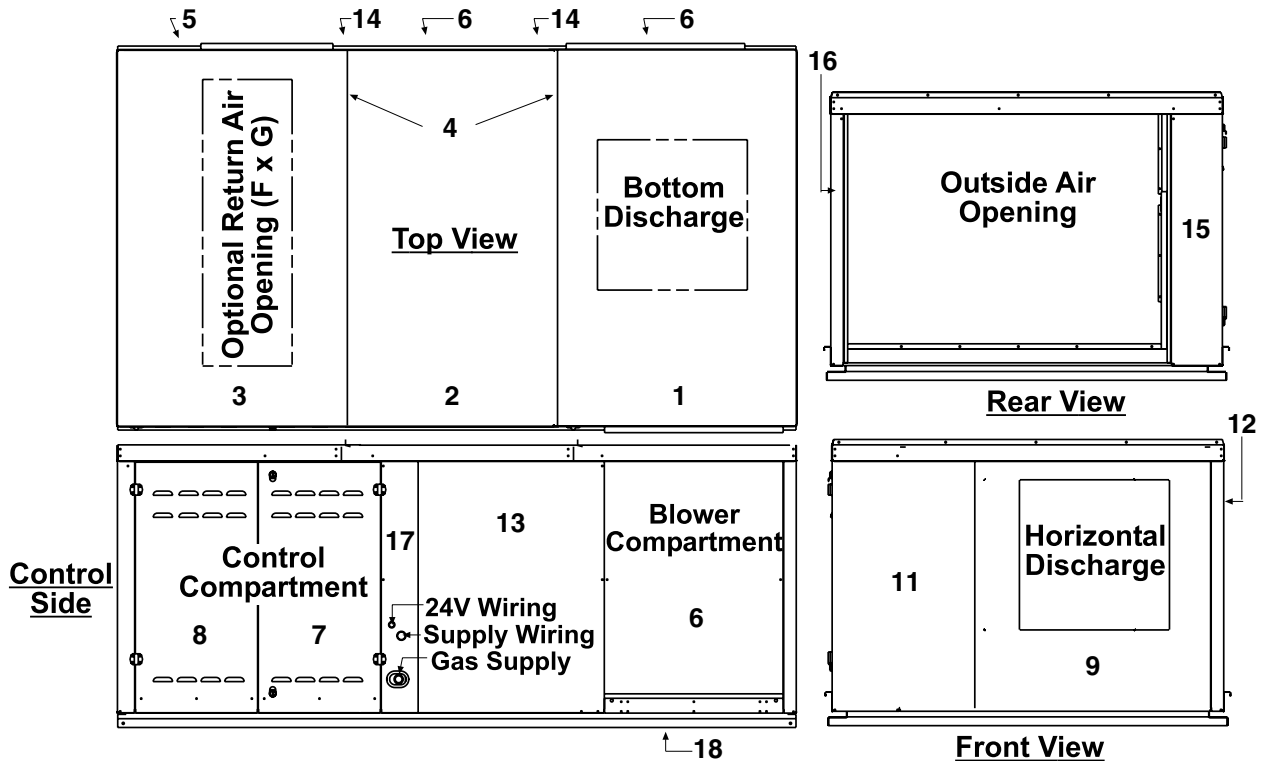

Figure 20. Cabinet Components—Models RDF-2 and RDF-3, Series 3 (Refer to Table 38)
- Cabinet components for model RDF-2 and RDF-3 series 3 units are listed in Table 38 and shown in Figure 20.